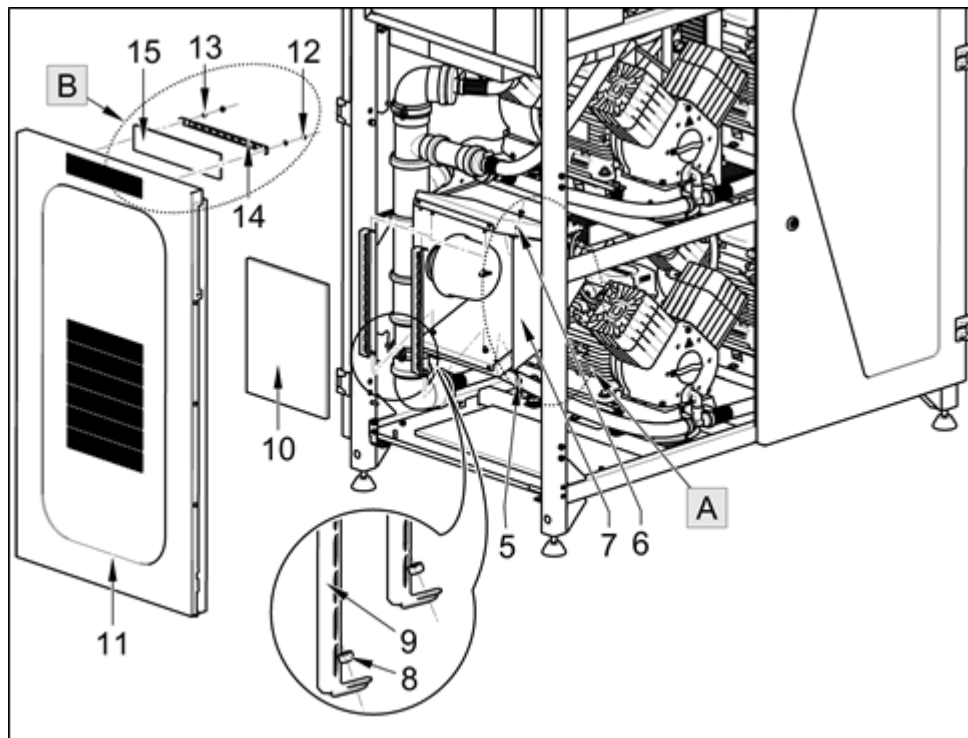

Fig. 27: Compressor inlet filter cleaning/replacement
- At Point A, remove the foam, remove the 4 screws (5), washers (6) and remove the suction filter cover (7). (Fig. 27)
- Remove the 2 nuts (8) on the filter bracket (9) and remove the filter (10).
- At Point B (on the sides (11), remove the 2 nuts (12), washers (13), release the filter bracket (14) and remove the filter (15).